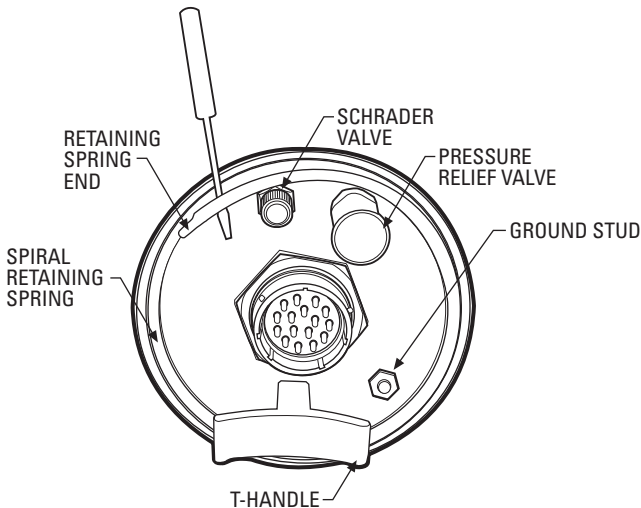

Figure 1. EH8100 Series Enclosure: Rear View
5. Remove the cap from the Schrader valve (refer to Figure 1).
7. Remove the rear plate of the enclosure (refer to Figure 1) and perform the following steps:
3. Remove the Schrader valve cap (refer to Figure 1 on page 5). Affix the self-holding tire chuck to the Schrader valve.